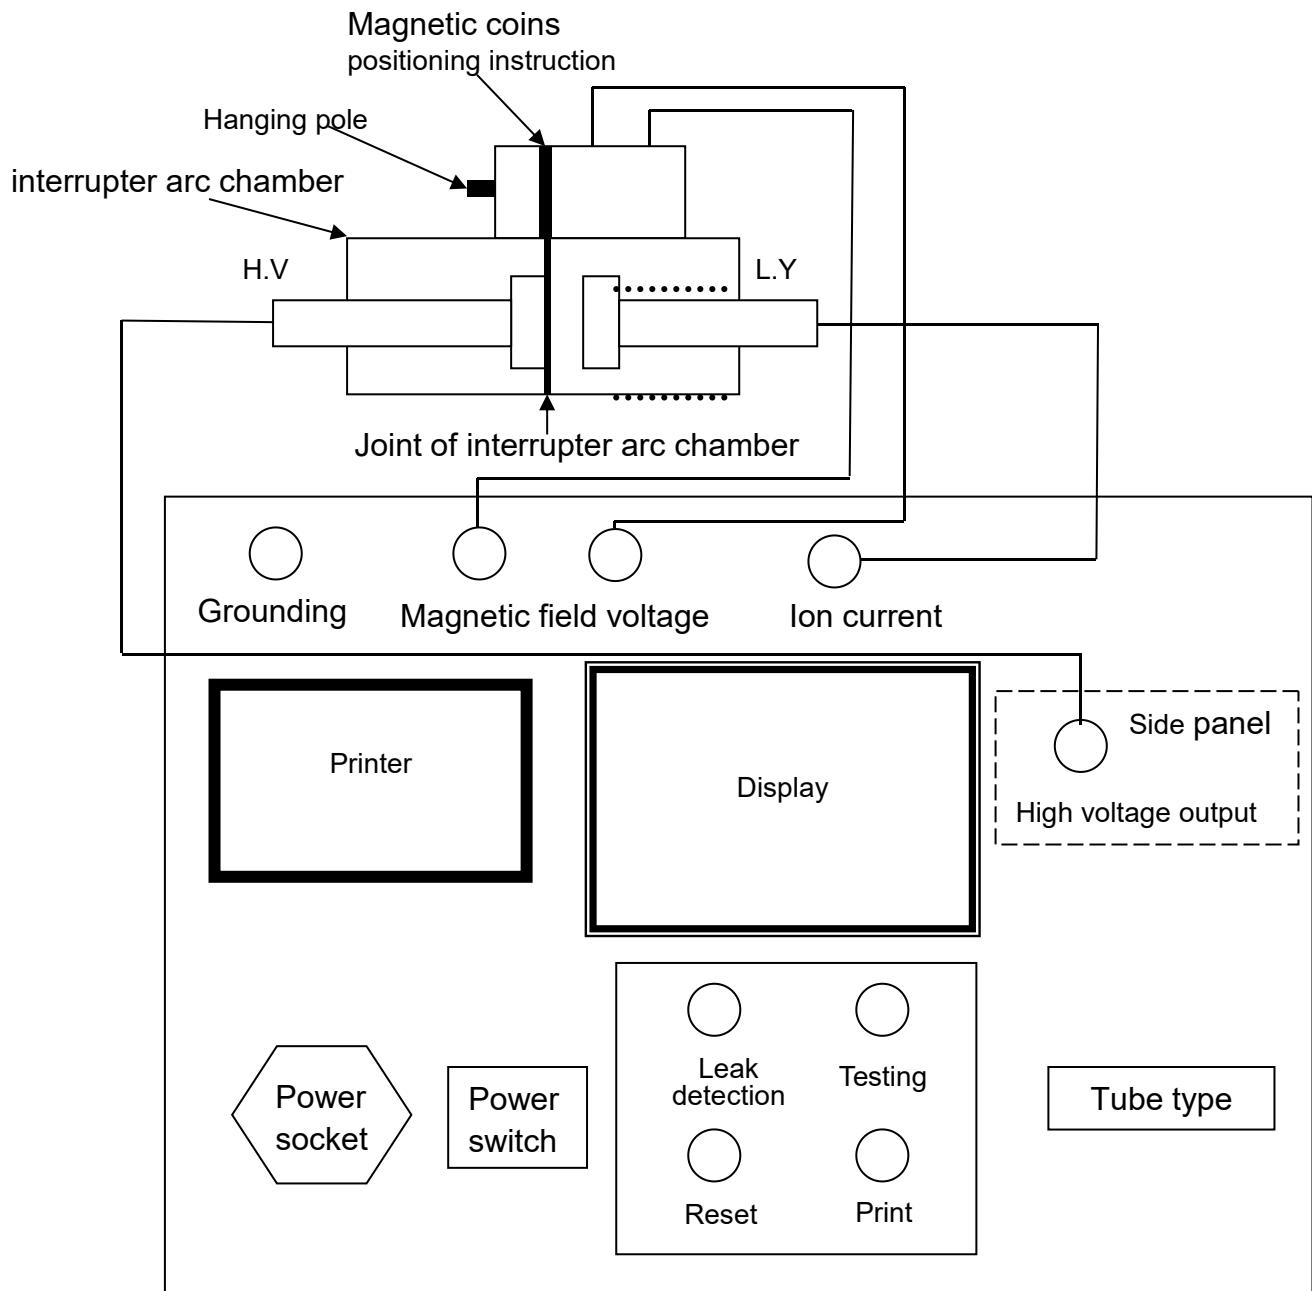

Figure 2. vacuum switch
Figure 2 shows the operation panel of the HTZK-IV Vacuum Interrupter Test Set, leak detection button is used to determine the preliminary vacuum of vacuum tube, measuring button is used to exert high electric voltage, strong electromagnetic field on the vacuum tube, and measure quantitative the vacuum of vacuum tube. There is a high-voltage output terminal in the left of instrument back, which should connect with the contact of vacuum tube; Ion current input terminal must connect with another contact on the vacuum tube, two output terminal of magnetic field voltage must be connect with two wiring terminal of excitation coins; ground terminal for protective grounding of equipment enclosures; DIP switch is used to enter the tube type of interrupter arc chamber; the tube type of interrupter arc chamber can be ascertained by tube's diameter and type of excitation coins.
(1) Pull and open two contacts pole of interrupter arc chamber for certain distance, and clean the surface; As shown in Figure 2, hanging the excitation coil and wiring all, and enter tube type of interrupter arc chamber through the DIP switch.
(2) Check the wiring is correct, turn on the power switch. Press the reset button, ensure that the equipment is in the initial state
(3) Press the leak detection button, detecting leak of vacuum tube